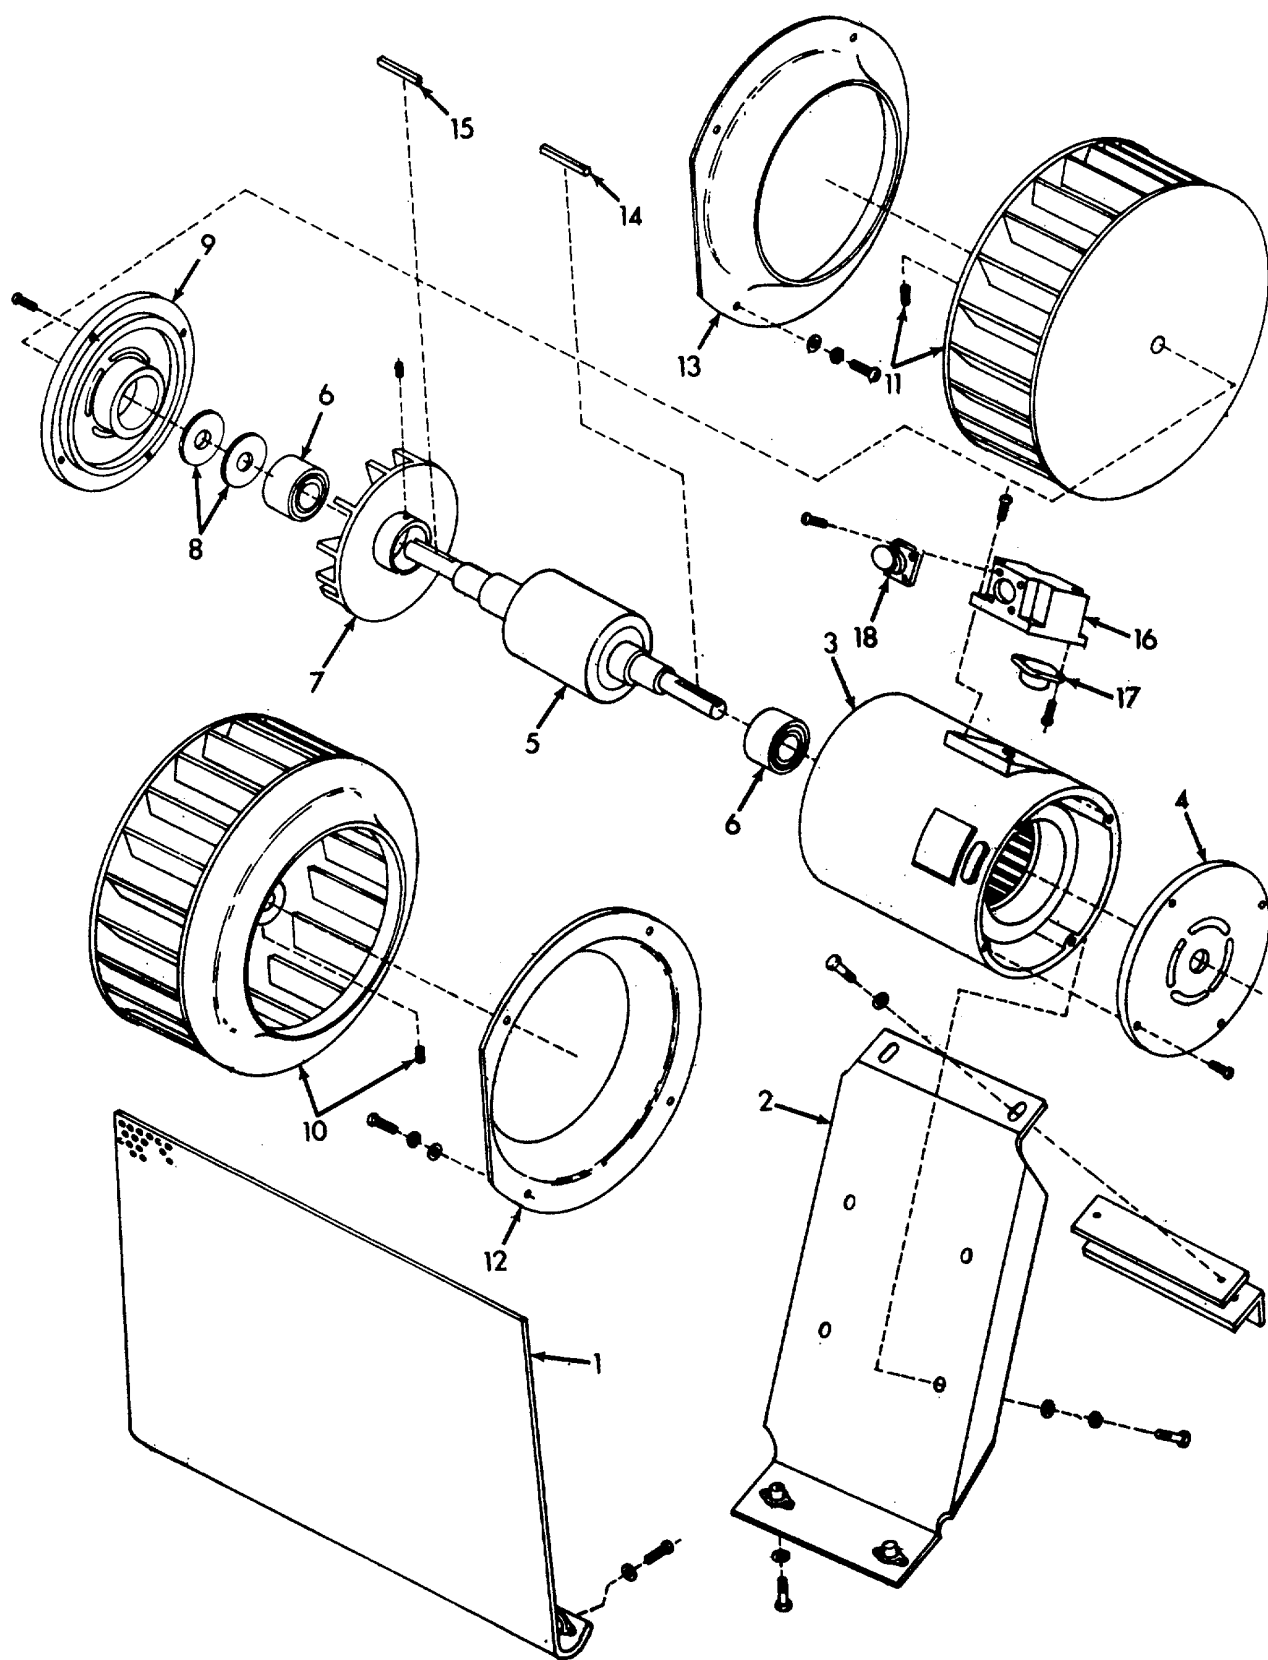

Figure 4-15. Evaporator Fan Assembly
**b. Removal** (See figure 4-15.) Remove the evaporator fan and motor assembly from the air conditioner as follows:
- (1) Disconnect the wiring harness from motor at receptacle J15 (18, figure 4-15).
- (2) Remove four screws and eight washers from the flange of each inlet ring (12 & 13, figure 4-15) and remove the inlet rings.
- (3) Remove four capscrews and washers from the motor support (2). Carefully lift out fan and motor assembly.
- (1) Inspect the impellers for dents, nicks, gouges or deformation. Replace them if damage is sufficient to cause imbalance or interference.
- (2) Inspect the motor shaft for end-play, side-play or runout, and listen for clicking or grinding noises when being rotated by hand. If runout exceeding 0.001-inch (0.025mm) TIR exists, replace the rotor. If other indications are found, replace the bearings.
- (3) Using an ohmmeter or continuity tester, check continuity at receptacle (18, figure 4-15) from points A to B, B to C and A. If continuity does not exist in one or more pairs, remove the thermal overload protector and test each pair of contacts for continuity. If continuity does not exist in one or more pairs, replace the thermal overload protector. Check continuity of each pair of winding leads, and of each lead to the motor frame. If continuity does not exist in one or more pairs, or if continuity does not exist between any lead and the motor frame, replace the motor.
**e. Assembly.** Assemble the evaporator fan and motor assembly in accordance with the following instructions: (see figure 4-15.)
- (1) Install receptacle (18) in junction box (16). Secure with four screws.
- (3) Install the junction box (16, figure 4-15) on the motor stator (3) and secure it with four screws.
- (4) Slide a bearing (6) and two load springs (8) onto fan end of rotor (5), and slide a bearing onto other end of rotor. Insert rotor into motor frame.
- (5) Carefully install the end bells over the ends of rotor and bearings, aligning screw holes in end bells and frame. Secure with four screws at each end.
- (1) Position the assembly in the air conditioner, and secure with two screws and flat washers through the casing partition into the nut plates of the support, finger tight. Install two screws and flat washers through the upper flange of the support into the nut plate of the casing, finger tight. Tighten all four screws.
- (2) Install inlet rings (12 & 13, figure 4-15) through holes in air intake plenums. Secure with four screws and eight washers through the flange of each inlet ring.
- (3) Check clearances between impellers and inlet rings, and tighten capscrews through motor support plate.
- (4) Connect electrical plug, P15, to the receptacle on the motor. Connect power to the air conditioner, turn the mode selector switch to VENTILATE, and check the operation of the fan and motor assembly. If airflow is low or non-existent, remove the assembly and interchange impellers. If rubbing, grating or binding is evident, adjust clearance as necessary.
- (5) Position the top panel on the air conditioner. Secure it with 31 screws through the top and rear flange.
- (6) Position the evaporator air discharge grille on the air conditioner. Secure it with 16 screws and washers.
- (7) Position the two evaporator air intake grilles on the air conditioner. Secure each with 12 screws and washers.
**Key to Figure 4-15:**